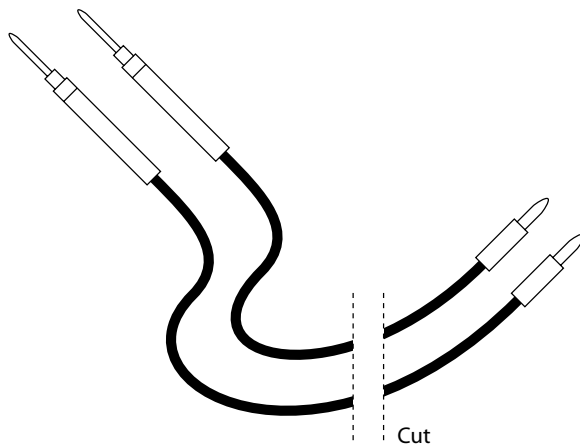

FIGURE 9-2: Snip the small plugs off the test probes—you don't need them.
1. Cut each wire about 6–10" from the probe's handle (see Figure 9-2).